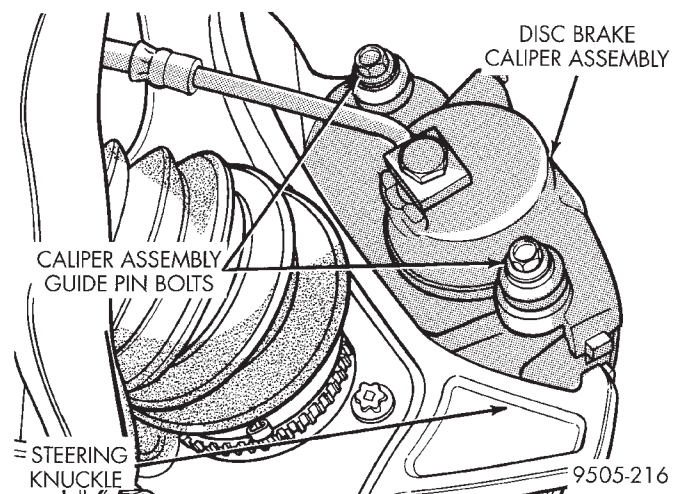

Fig. 81 Removing Caliper Guide Pin Bolts
- (1) Raise vehicle on jackstands or centered on a hoist. See **Hoisting** in the **Lubrication and Maintenance** section of this manual.
- (2) Remove front wheel and tire assemblies from vehicle.
- (3) Remove the 2 caliper to steering knuckle guide pin bolts (Fig. 81).
(4) Install the brake caliper guide pin bolts (Fig. 81). Then tighten the guide pin bolts to a torque of 22 N·m (16 ft. lbs.).
(5) Install the wheel and tire assembly.
(6) Tighten the wheel mounting stud nuts in proper sequence until all nuts are torqued to half specification. Then repeat the tightening sequence to the full specified torque of 135 N·m (100 ft. lbs.).
(7) Remove jackstands or lower hoist.
(8) Check and adjust brake fluid level as necessary.